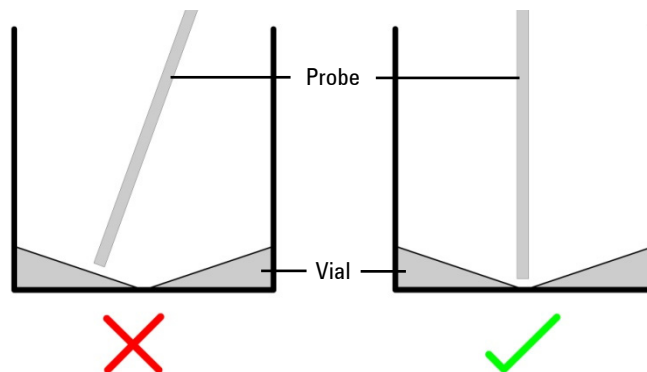

Figure 13 Probe positioning in a sample vial
- 8 Check the probe is correctly aligned, refer to **Figure 13**. The probe should almost reach the bottom of the vial but not actually touch it. If the end of the probe is too far from the bottom of the vial, or if it touches the bottom of the vial: